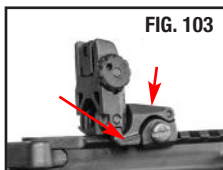
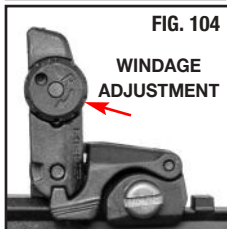

FIG. 103
FIG. 104
- The Magpul® MBUS® spring-loaded, folding rear sight (FIGURE 103) is a dual aperture rear sight that is adjustable for windage (FIGURE 104). Turn the knob right to change the bullet impact to the right. The sight flips up by pressing the tab from either side or by pressing the central area on top (FIGURE 103). The sight can be folded with either large or small aperture in position.